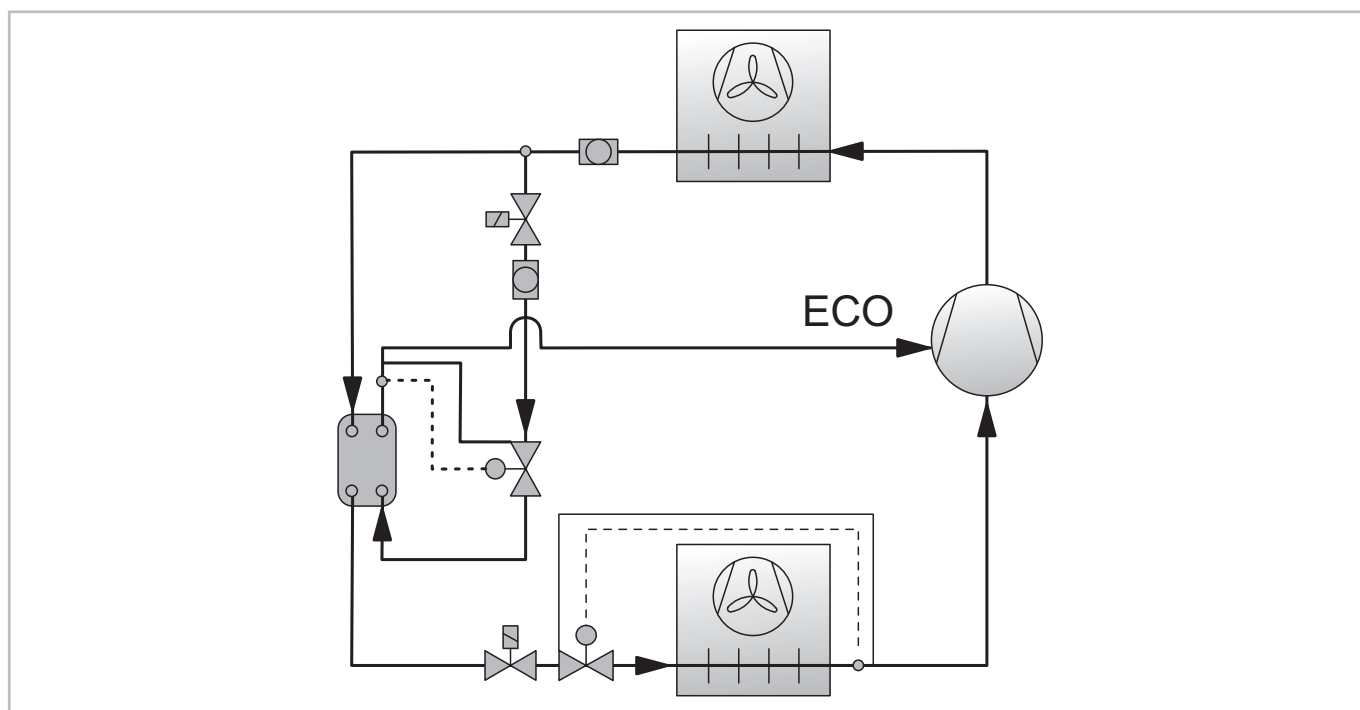

Fig. 6: ECO system with liquid subcooling circuit
- An additional heat exchanger (here: liquid subcooler) is used to subcool the liquid refrigerant by injecting a part of the refrigerant from the condenser through an expansion device in counter flow into the subcooler which then evaporates due to the absorption of heat. The superheated vapour is pulled into the compressor at the ECO connection and mixed with the vapour, which is already slightly compressed, from the evaporator (*see figure 6, page 25*).